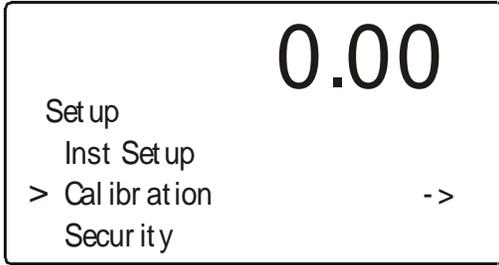

FIG. 2-33 CONFIGURATION MENU/SELECTING SETUP
- Step 2. Press the “-” button until the cursor is in front of Calibration. (See Fig. 2-33)